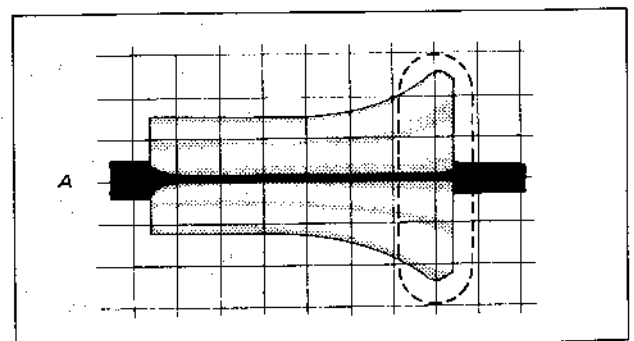

Fig. 4-12.
- When the waveform is outside this range and has the form shown in Fig. 4-12, turn the tilt adjustment screw counterclockwise to adjust until the waveform is within the required range.
- When the exit free waveform is outside of the required range and has the form shown in Fig. 4-13, turn the tilt adjustment screw counterclockwise to produce waveform A (Fig. 4-12), then turn it clockwise to bring the waveform within the required range.
- If the radio frequency waveform is as shown in Fig. 4-12 on the exit side, repeat the adjustment.